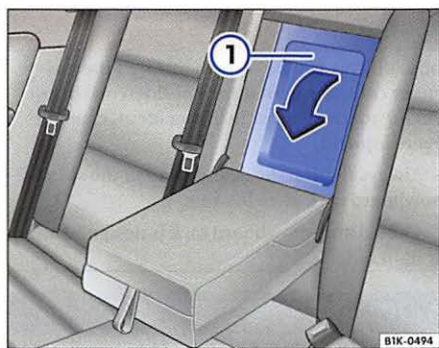

Fig. 88 In the rear backrest: Opening the luggage compartment pass-through.
- Pull the release lever ⇒ fig. 88 ① and fold the pass-through cover all the way forward.